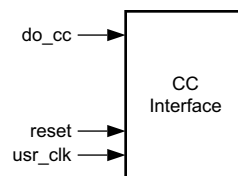

Figure 2-16: CC Port Interface
The Clock Compensation (CC) interface (Figure 2-16) is included in modules that transmit data. CC characters are assigned highest priority on the channel. Each Aurora 64B/66B core is accompanied by a clock compensation management module that is used to drive the clock compensation interface in accordance with the *Aurora 64B/66B Protocol Specification* (SP011) [Ref 5].